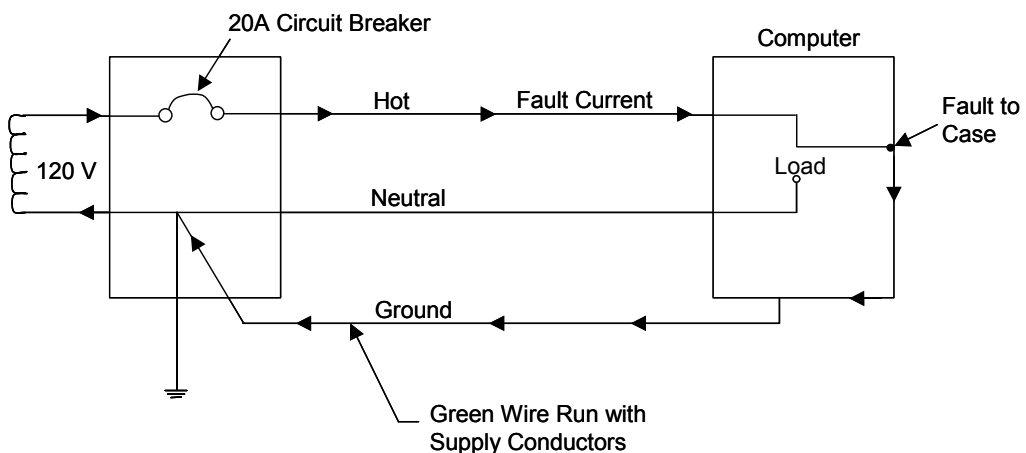

Figure 5 – Proper method for grounding the computer
**Figure 5** illustrates the proper method for grounding the computer.